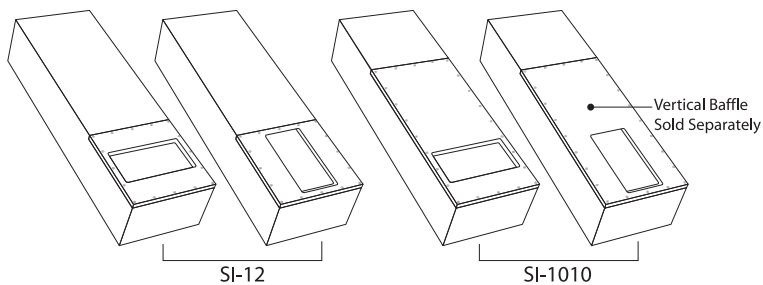

Figure 1
- The position of the baffle can be set horizontal or vertical for the SI-12 depending on direction of other existing floor vents. The SI-1010 comes standard with a horizontal baffle. A vertical baffle for the SI-1010 may be purchased separately, see figure 1.